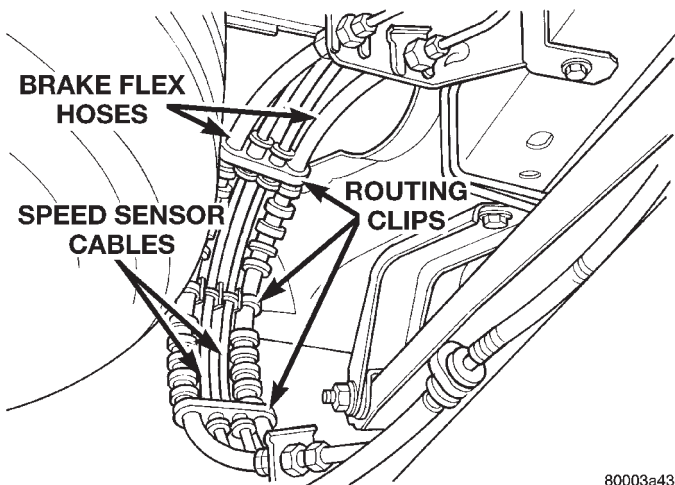

Fig. 39 Speed Sensor Cable Attachment To Brake Flex Hose
(4) Carefully remove the speed sensor cable from the rear brake flex hose routing clips (Fig. 39).